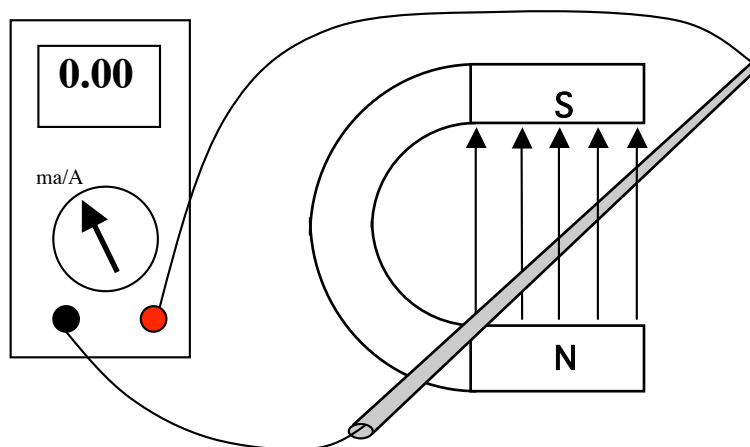
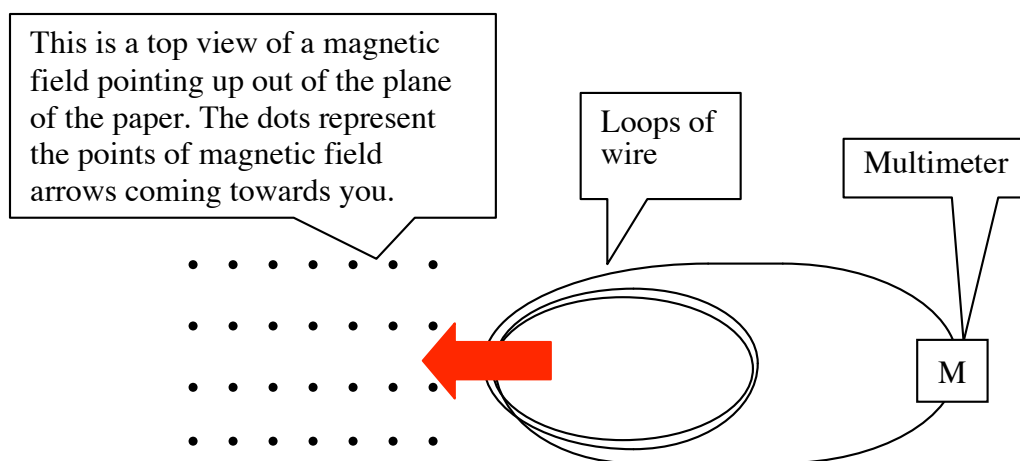

Figure 11.11a
Figure 11.11b
Turning the Genecon crank makes coils of wire rotate between two magnets inside the motor. This makes the charge contained in the coil wire move in a magnetic field -- in a direction sideways to the wires. How does this make charge move through a bulb connected to the motor? We will investigate the simpler situation in Figure 11.11a, with your hands making a straight wire move in a stronger magnetic field with a nearly uniform pattern like that of the field in the Genecon motor.
Figure 11.11a shows a digital multimeter with its selector set to read current, making it an ammeter. To determine which direction of charge flow the meter readout indicates, connect a D-cell and two long bulbs in series with the meter. The D-cell's orientation in the circuit tells you which direction conventional charge moves -- and the meter reading will display either a negative sign or no sign corresponding to that direction of charge flow.
After you connect the circuit in Figure 11.11a, use your hands to make the wire move. Watch the galvanometer needle, which will respond to charge movement along the wire.
1. To simulate what happens in a generator, you will make the straight wire in Figure 11.11a move to the left in the magnetic field. This movement will be sideways to the wire and sideways to the direction of the magnetic field arrows. Draw a red arrow on Figure 11.11a to indicate the direction the charge in the wire moves during this sideways wire movement. **Before pushing the wire, use the Right Hand Rule to predict the direction that charge will move along the length of the wire.** If the galvanometer detects charge flow in the circuit with the straight wire, you should draw blue arrows on that wire to show the direction the magnetic field pushes moving charge in the wire to make the observed flow occur. Then move the wire in the opposite direction, and again note the direction of magnetic pushing on the charge that's present in the straight wire.
2. The Genecon motor has many turns of wire, so you should explore using coils with many turns of wire to see if that causes a greater effect. The teacher will provide various coils with different numbers of turns. Figure 11.11b shows a top view of Figure 11.11a with a coil replacing a straight wire. This has been done to make the physical situation easier to visualize and analyze.
- Position each coil as in Figure 11.11b and hold the plane of a coil horizontal.
8. Draw a simple colored diagram for Figure 11.11b that includes and relates
Let's apply the Right Hand Rule to the apparatus in Figure 11.11a, diagramed below with arrows. Refer to the diagram of the Right Hand Rule in Figure 11.8 while doing each of the following:
(Figure 11.11a WITH DIRECTIONAL ARROWS AND EXPLANATION)
Imagine that the multimeter in Figure 11.11a is replaced by a light bulb. The wire moving in a magnetic field will cause charge flow through the bulb -- exactly like it caused flow through the multimeter. This is the generator effect. Is there an electric pressure difference in the generator terminals driving charge flow through the bulb -- just like in battery terminals? Why or why not?